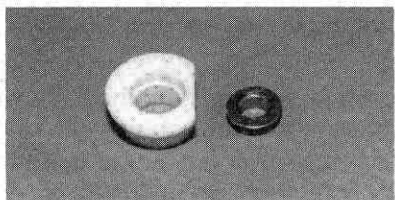

Fig. 88
- ☐ **Fig. 88** Install the bushing or ball bearing into the adaptor.